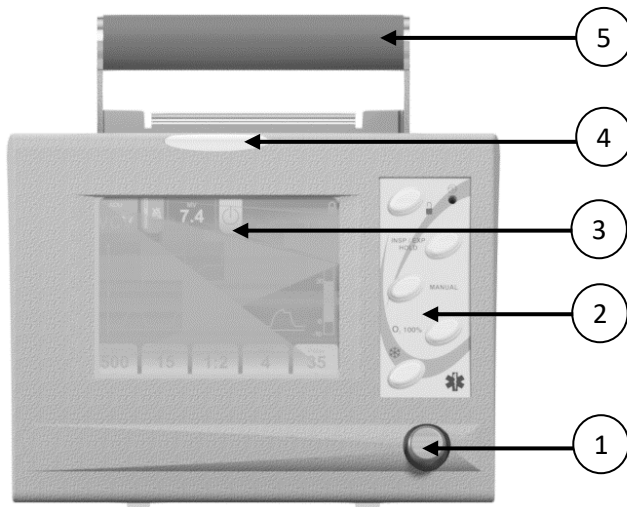

Figure 1: Frontal Panel of transport ventilator.
### Components of Figures 1 and 2
**Components of Figures 1 and 2****5. HANDLE**
**Components of Figures 1 and 2**